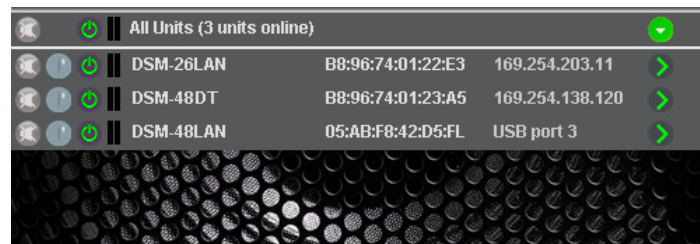

Fig. 15 Overview window
- 2) In the overview window (fig. 15) for the respective DSM-48DT, click the button (see chapter 7.3).
The overview window (fig. 15) will appear, displaying a list of all units connected. In the upper row “All Units”, the text in parenthesis specifies the number of units that are currently “online”, i. e. that are actively connected to the computer. The rows below the upper row contain the following columns with various information and functions for the individual units:
To configure a unit, click the button (figs. 15, 16) in the appropriate row of the list.